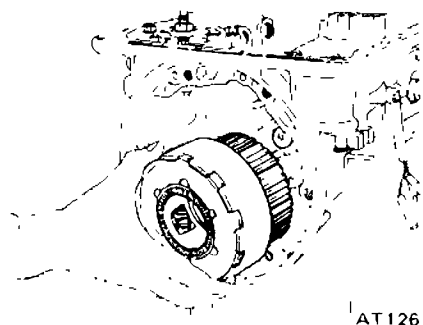

Fig AT-60 Removing connecting drum
- 13 Remove connecting drum and inner gear of rear planetary carrier as an assembly. See Figure AT-60.